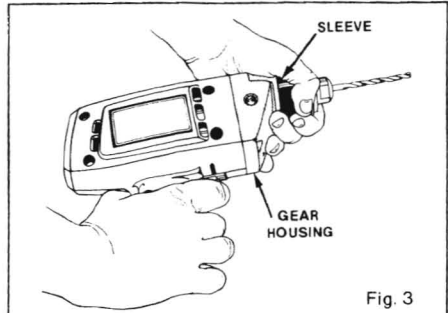

Fig. 3
See Figure 3.
6. Grasp the sleeve of your drill's auto chuck as shown in Figure 3 and pull it toward the gear housing. (This engages the auto-chuck). Note that the chuck jaws are closing. When it appears that the jaws have closed to a point where the opening is slightly larger than the bit size you intend to use, release the auto-chuck sleeve. **DO NOT ALLOW THE CHUCK JAWS TO CLOSE ON THEMSELVES.**